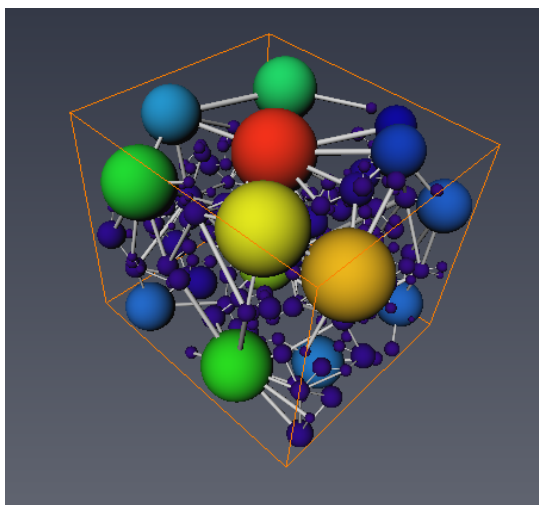

Figure 24.11: Pore Network Model View
2. Create a *Pore Network Model View* on the new network and hide the *Volume Rendering* module linked to the separated data. You can now visualize the network in the original data (see Figures 24.11, 24.12, and 24.13).